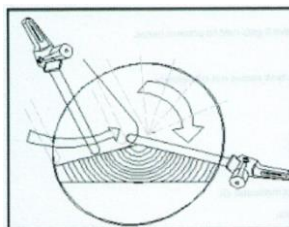

Fig. 12
- If the diameter of the log section is greater than the length of the bar, make two cuts as shown in Fig. 12.